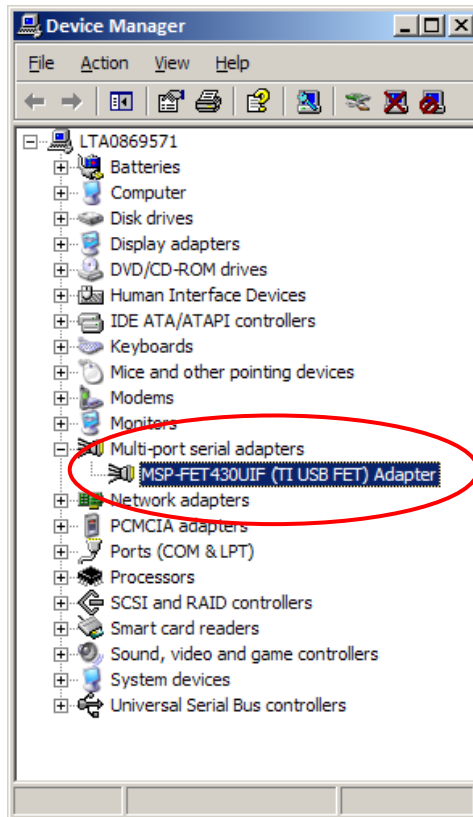

Figure 10. Device Manager
11. The eZ430-F2013 is now installed and ready to use. The Device Manager should list a new entry as shown in Figure 10.